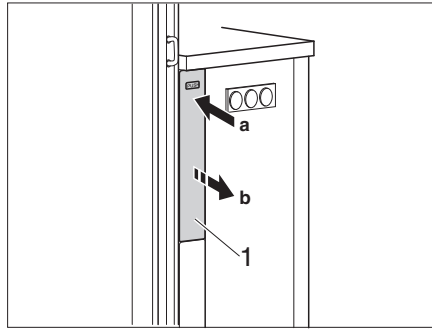

Fig. 128 Loosening the extension
- Press the cover (Fig. 128,1) of the extension. The extension is released.
- Slide the extension (Fig. 128,1) into the kitchen structure until it latches in.